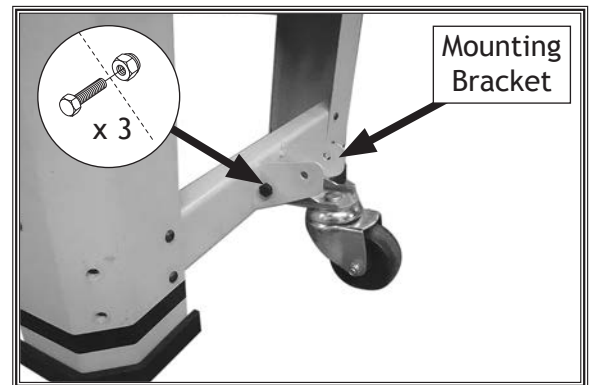

Figure 13. Caster installed onto mounting bracket.
3. Install casters onto caster support brackets and mounting bracket using (3) M8-1.25 X 65 hex bolts and (3) M8-1.25 lock nuts (see **Figure 13**).